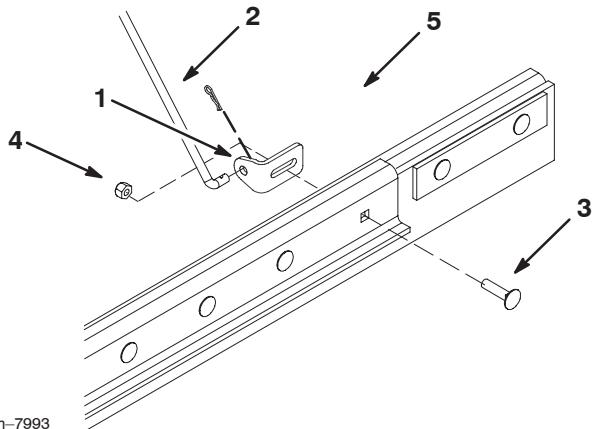

Figure 14
4. Install the adjuster bracket for the 60 and 72 inch decks as shown in Figures 14 and 15.
5. Secure the adjuster brackets using a carriage bolt (5/16 x 1-1/4 inch) and lock nut (5/16 inch), as shown in Figure 14.
6. Insert the bent end of the lift rod into the round hole of the bracket and secure it with a hair pin (Fig. 14).